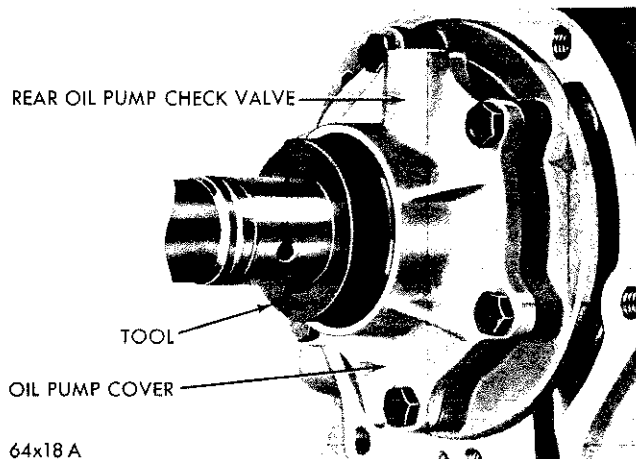

Fig. 45—Aligning Rear Oil Pump Cover
- (3) Install the oil pump cover with the retaining bolts threaded in a few turns. Slide the aligning fixture Tool C-3864 all the way in until it bottoms against the rotors (Fig. 45), then retighten the cover bolts evenly to 140 inch-pounds torque.
- (4) Install the governor and support. Refer to Page 61.
- (5) Install the extension housing, transmission flange and connect the propeller shaft.
- (6) Connect the parking lock cable.